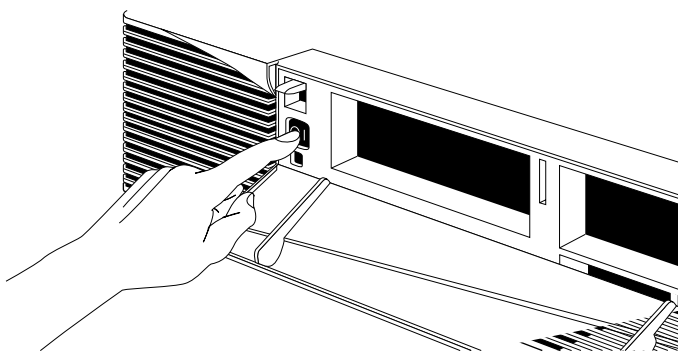

Figure 3-3 Turning On the Indigo² Workstation
- Press the power switch to turn on the system, as shown in Figure 3-3.